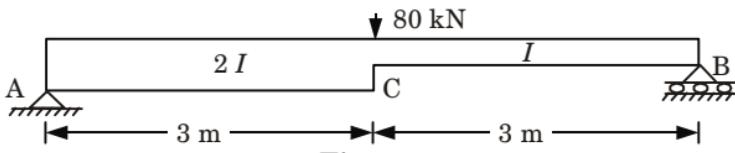

Fig. 14.
- b. Determine the slopes at supports and deflection under the load for the beam shown in Fig. 14. Take Young's modulus E as 210 GPa, moment of inertia as  $120 \times 10^6 \text{ mm}^4$ . Adopt conjugate beam method.